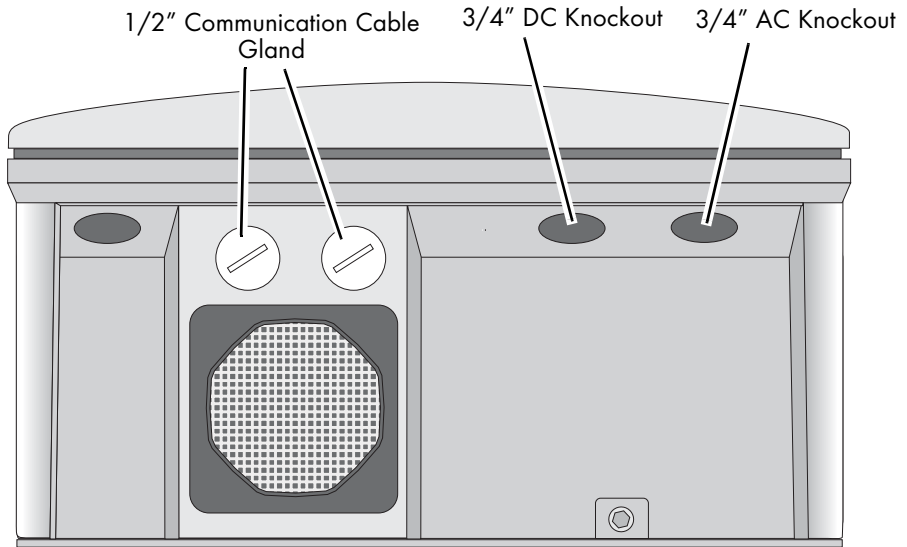

Figure 5-1 Sunny Boy showing wiring knockout locations
The DC input from the PV array (via the DC disconnect enclosure) and the output to the AC utility grid connect to the inverter inside the Sunny Boy's case. The internal AC and DC wiring terminals accept a maximum wire size of #6 AWG. Knockouts are provided on the bottom of the Sunny Boy near each of the terminals for the wires to enter the case (see Figure 5-1).
4. Install a 3/4-inch conduit fitting in the Sunny Boy's AC wiring knockout (the knockout on the right side of the Sunny Boy, as shown in Figure 5-1). Fasten the conduit fitting on the inside of the Sunny Boy with the appropriate locknut.